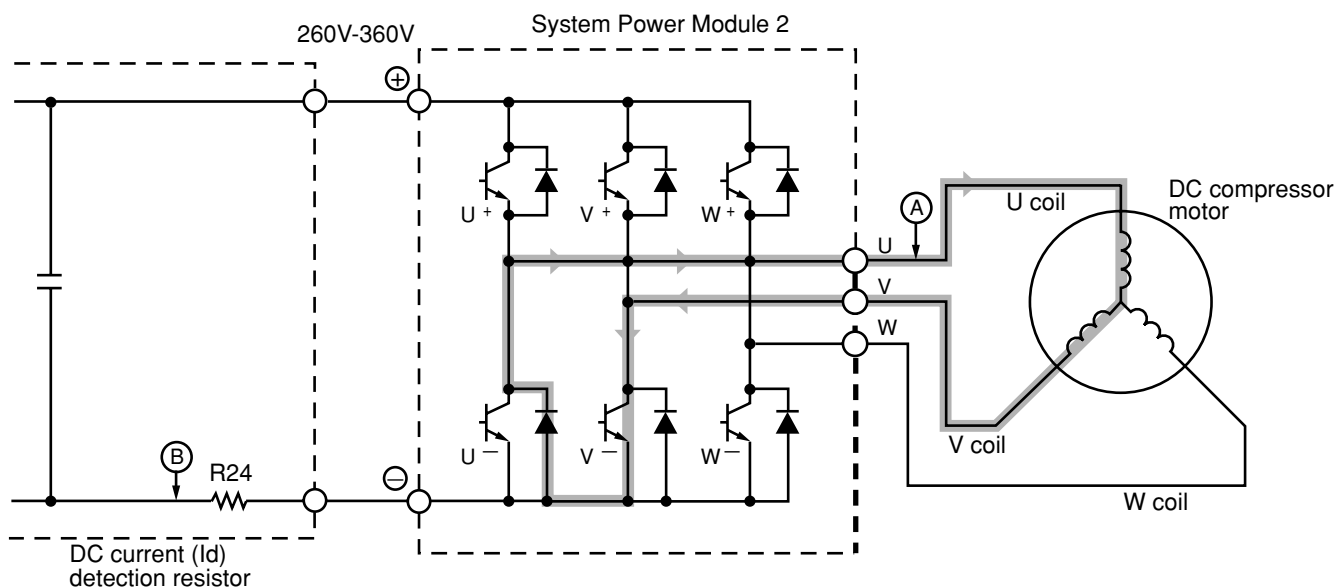

Fig. 3-4 Power module circuit (U^+ is ON, V^- is ON)
At point F: U^+ is chopped (OFF), V^- is ON (circuit in Fig. 3-4)
- (2) When U^+ transistor is OFF: (by inductance of motor coil) U coil \rightarrow V coil \rightarrow V^- transistor \rightarrow Return diode \rightarrow Point (A) (Fig. 3-4)